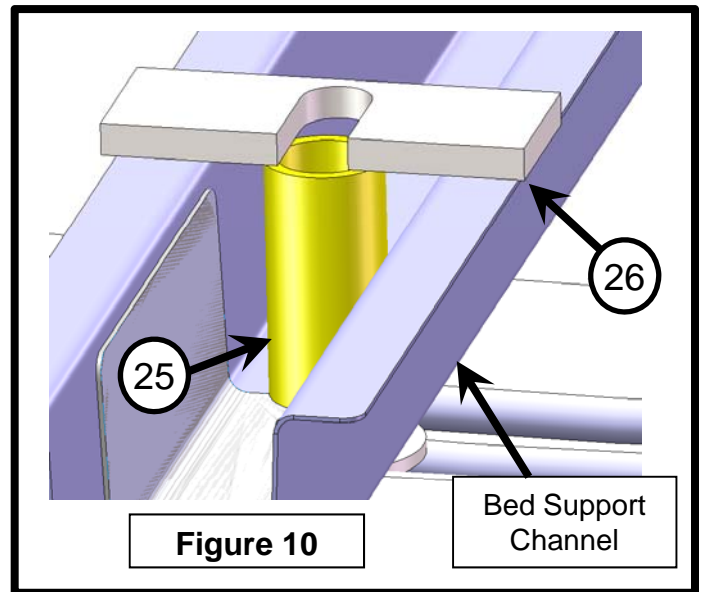

Figure 10
19. Insert the long tube spacer (item #25) into the forward holes. Then slide spacer plate (item #26) under the bed corrugation but above the bed support channel. Figure 4 shows the proper components assembly. See Figure 10. Truck bed not shown for clarity reasons.